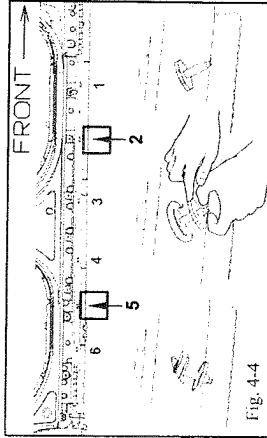

Fig. 4-4
- (e) Insert a flag bolt & retainer into the bottom large rocker hole #2 - tail end first, rotating into position (Fig. 4-4).
- (f) While holding the end of the flag bolt, hand tighten the retainer so that it's tight and flush with the vehicle rocker (Fig. 4-4).
- (g) Install the second flag bolt at location #5 (Fig. 4-4).